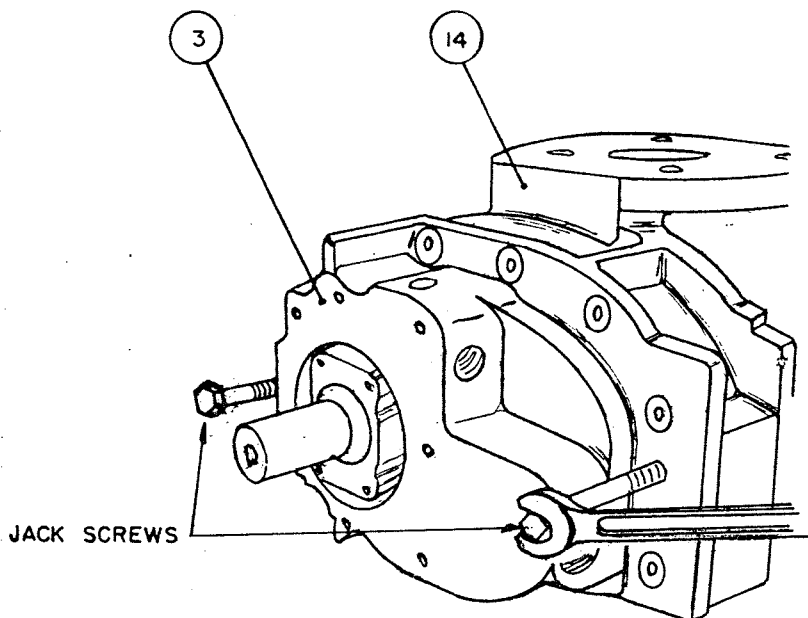

Fig. 6
- 4.3.5 Tighten jack bolts evenly to prevent dowel pins from binding. See Fig. 6.
- a. Figure 6, turn your back to the blower pointing the meter away from the blower. The meter will now register the background noise level. Record this number.